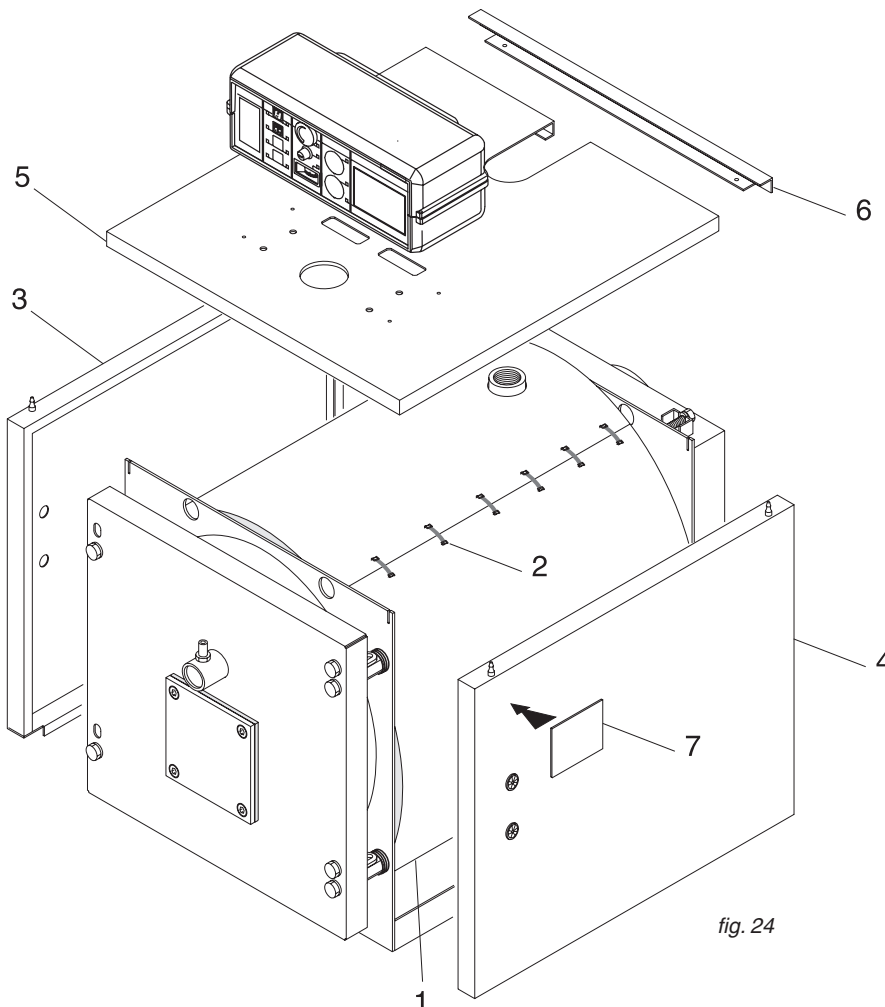

fig. 24
N.B.: For models between **SKD 64** and **SKD 291** (ref. fig. 24 and 25), the casing and insulation are contained in 1 box marked as:
Assembly sequence (Ref. fig. 24 and 25)